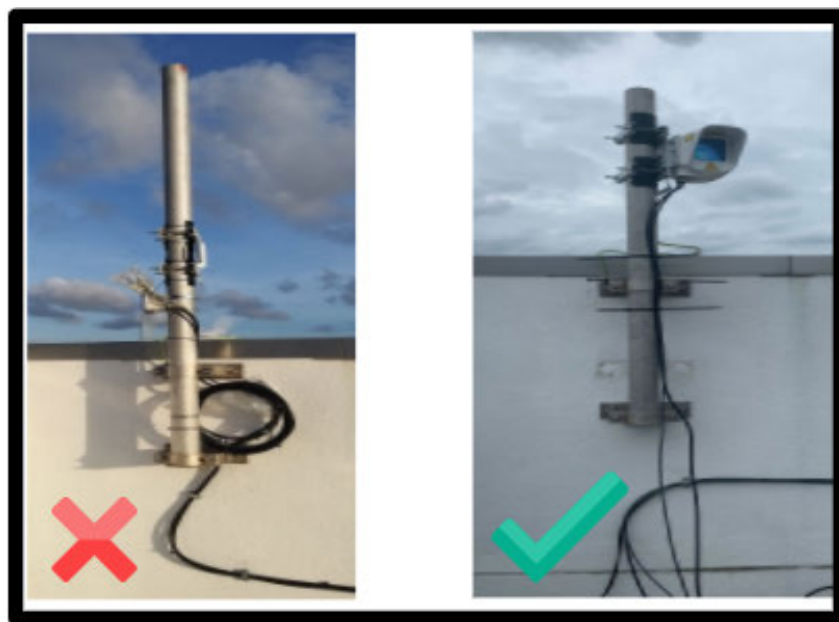

Figure 5: “Bad” pole (Left) vs. “Good” pole
3. The waterproof enclosure has a 'Line of Sight' label with an arrow. The arrow on this label should point in the **direction that CENTAURI will point** (Fig 5).
4. Using two metal screws provided by the mount, securely and tightly attach the SST to the mounting pole (Fig 5). Each screw should be used at opposite corners to do so (e.g. top right and bottom left).